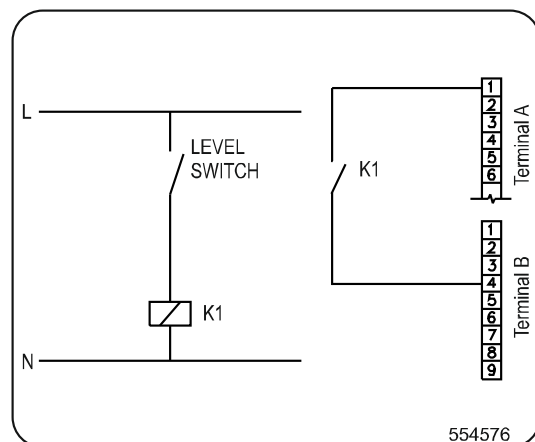

Figure 17
- This option is not obligatory. However, it is advisable to install a level switch. This level switch must be connected to the microprocessor by means of a potential-free contact, see Figure 17.